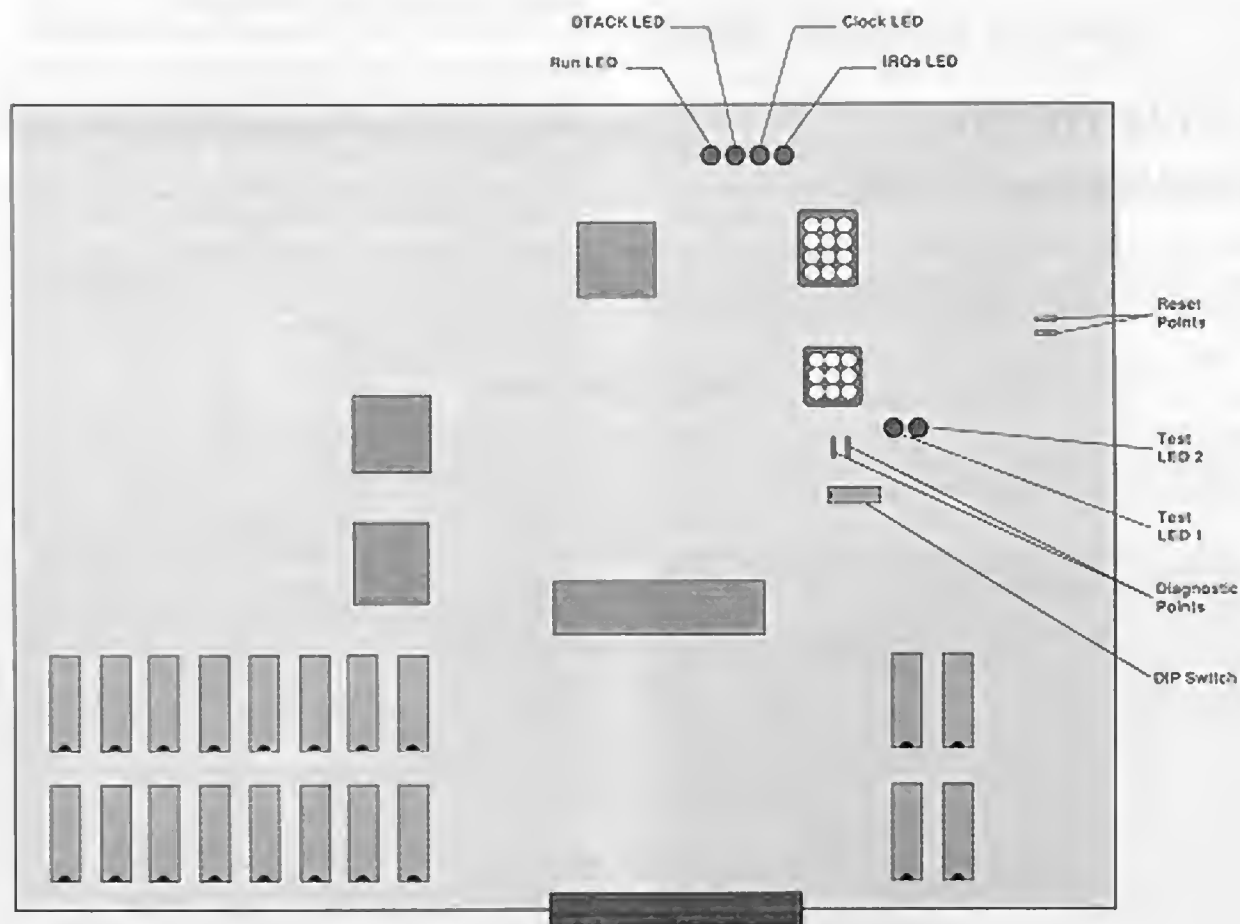

Figure 2-29 DIP Switch and LED Locations on the Multisync PCB
Figure 2-29 shows the location of the LEDs on the Multisync PCB. Table 2-6 shows the possible status of the LEDs, with an explanation of what they indicate.
1. Put a jumper across the DIAGN test points, shown in Figure 2-29.
4. Put a jumper momentarily across the RESET test points, shown in Figure 2-29.
2. Put a jumper momentarily across the RESET test points, shown in Figure 2-29.